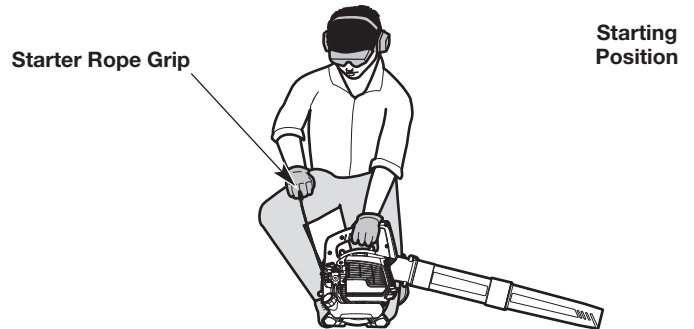

Fig. 5
WARNING: Avoid accidentally starting the unit. To avoid serious injury, the operator and the unit must be in a stable position when pulling the starter rope (Fig. 5).
- DO NOT** squeeze the throttle control. Crouch in the starting position (Fig. 5).